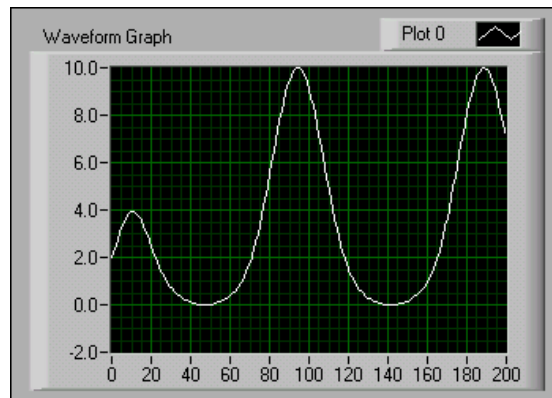

Figure 8.17
1. Open a blank VI and build the front panel shown in Figure 8.17.